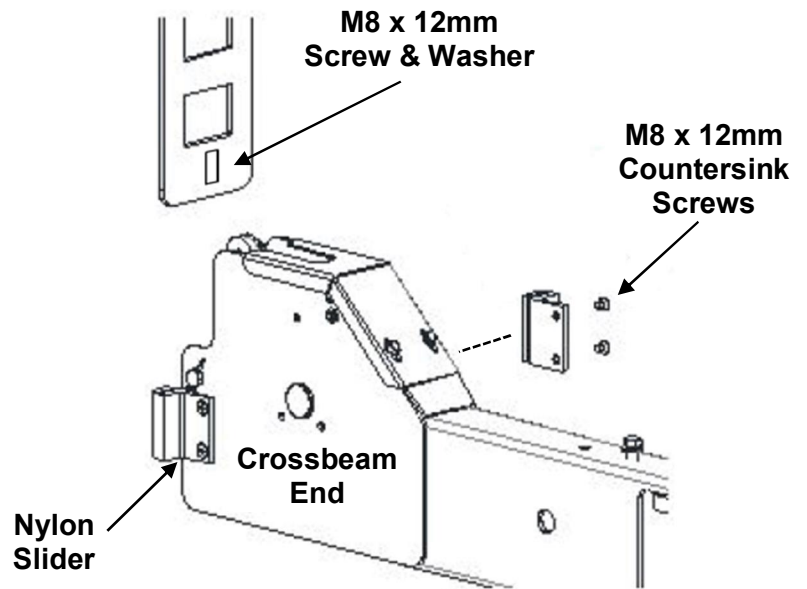

Fig. 11
- 4) Carefully position each Post to be centered around the Crossbeam ends while still allowing the Nylon Slider bolt holes to stay exposed. Bolt Sliders onto each side of the Crossbeam end, using the **M8 x 12mm** Countersink Screws, shown below in **Fig. 11**.